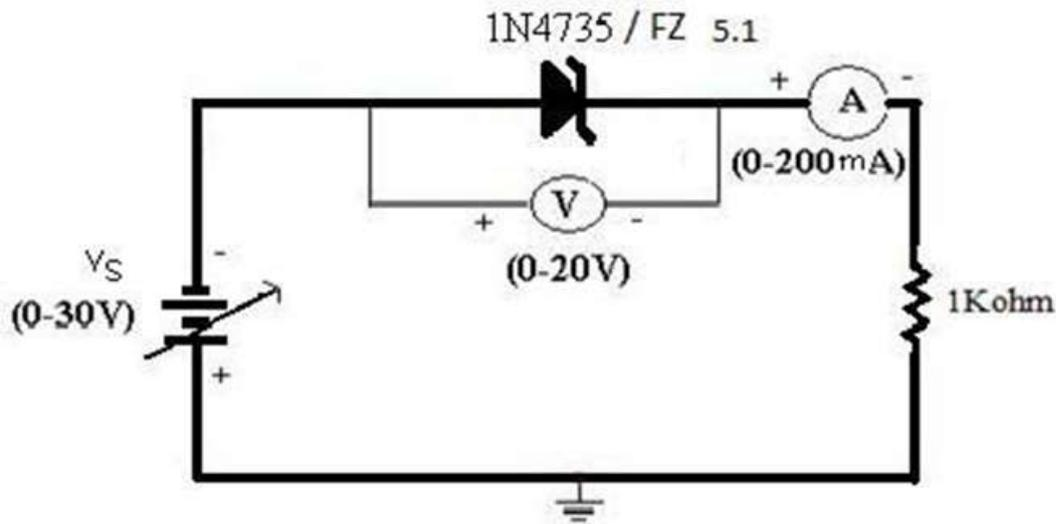

Fig. 3 : Forward Bias Condition
1. Connect the circuit as shown in fig.3.